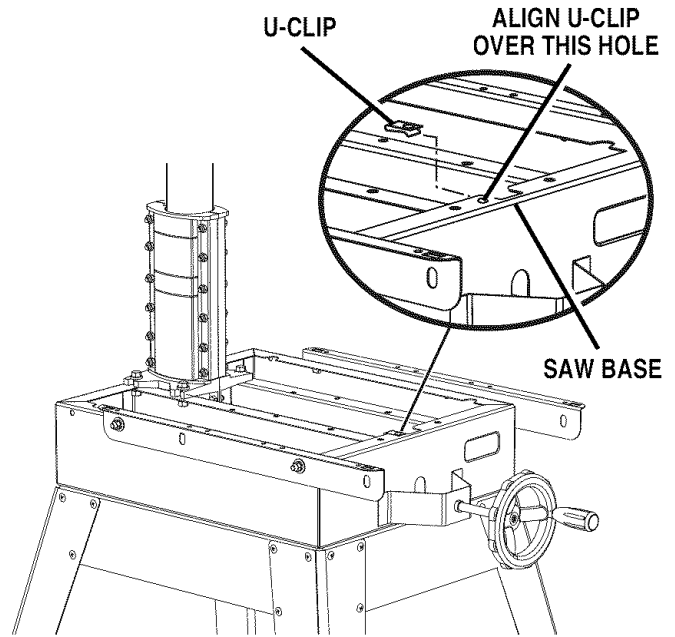

Fig. 22B
- Snap the U-clip onto the front edge of the saw base. Line up the hole in the U-clip with the saw base hole just to the left of the center notch in saw base. See Figure 22B.